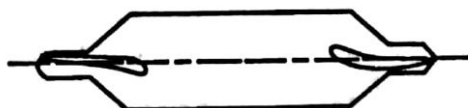

Fig. 2.29 : Centre Drill
4. **Centre Drill** : It is a small drill used for drilling and counter sinking each end of the job (specially shaft, stud, axle etc.) which is to be turned between lathe centres. Fig. 2.29 shows a centre drill. The hole so made at the end functions as a bearing surface for the lathe centres.